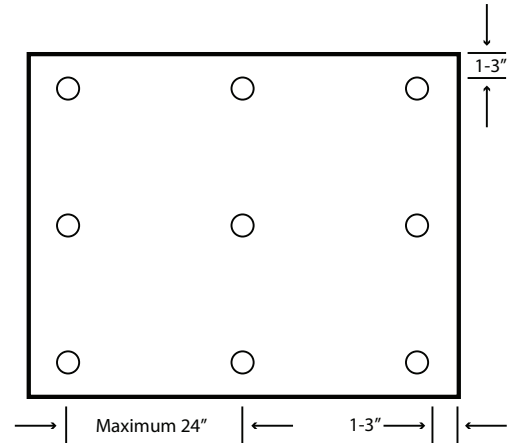

Figure 5 - Three supports scenario
- Stonewood façade panel must be fastened at least three points in each direction to the sub-structure (Figure 5).